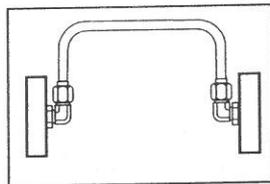

Fig. 8 - Correct Routing
- **Avoid excessive strain on joint** - A strained joint will eventually leak. (See Figures 8 through 15.)